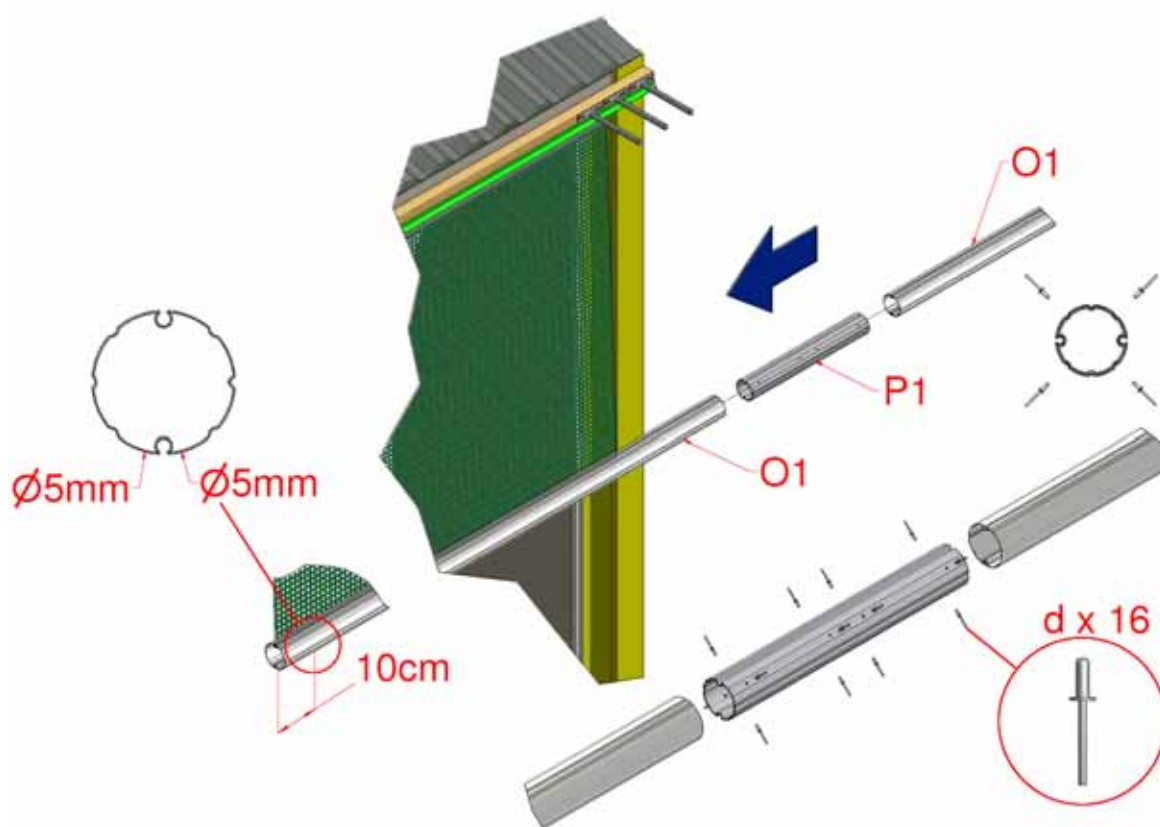

Figure 11a, Inserting and Joining Rolling Tube
- 3.4 Slide the Tubes (O1) (from the non-drive end for single motor drive), down towards the drive end, inserting a Tube Joiner (P1) equally between each length of the tube and fasten using stainless steel rivets (d), Figure 11a.